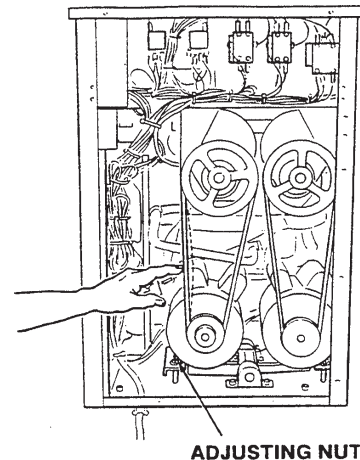

Figure 71. Belt Tension Adjustment
5. Install and adjust belt to the proper tension (Figure 71).